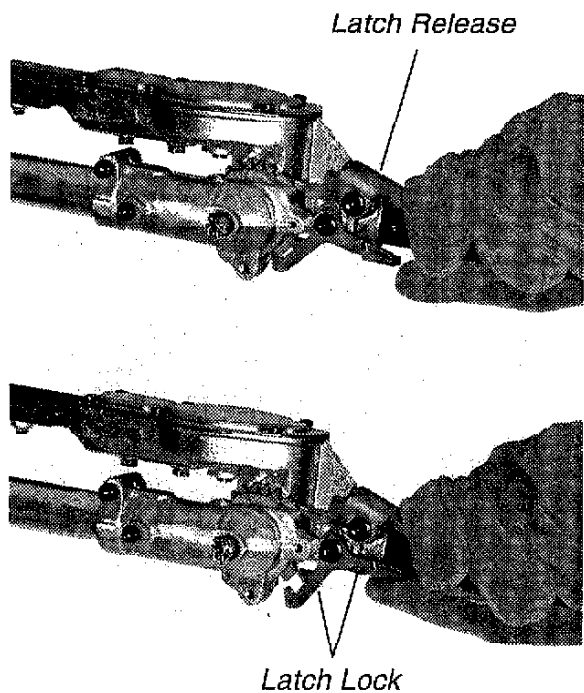

Figure 16
2. With the index finger of your left hand, press the latch release. With your left thumb, press the latch lock. See Figure 16